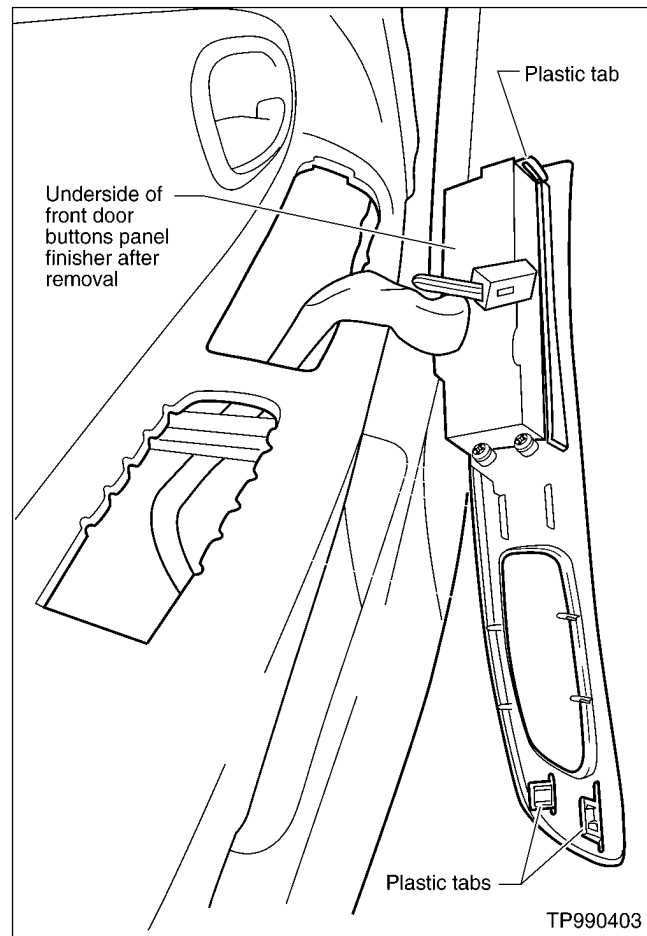

Figure 14
- B. Lift and remove the buttons panel finisher (see Figure 14 for a view of the finisher when removed).